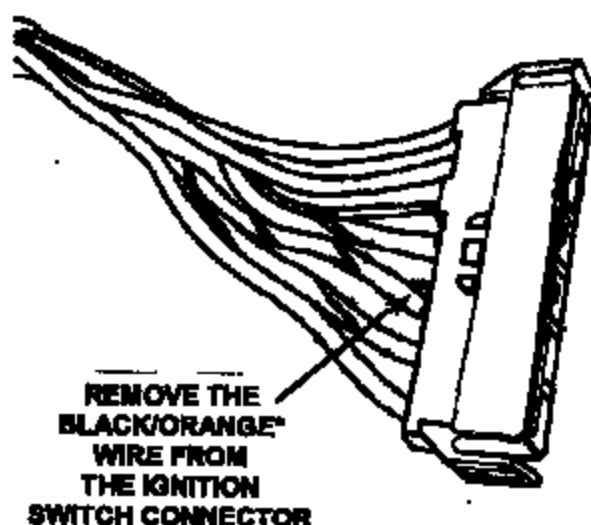

Figure 15
9. Remove the RED wedge from the 7-way ignition switch connector (Figure 15).
10. Remove the BLACK with ORANGE tracer (A22) wire from cavity 5 of the 7-way ignition switch connector (Figure 15). Then, remove the wire from the wiring takeout bundle back to the base of the steering column.